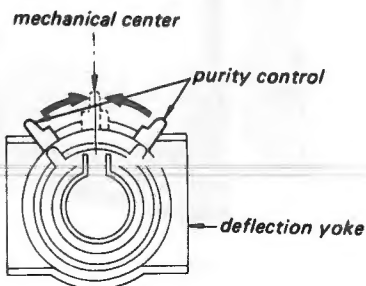

Fig. 1-1
2. Set purity control as shown in Fig. 1-1.